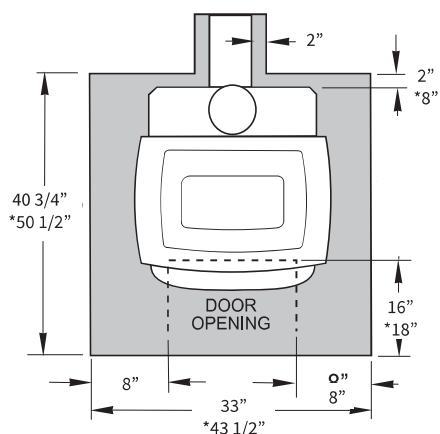

Figure 71. Minimum Hearth Dimensions.
- In a rear vent installation, floor protection must also extend under the stove pipe a minimum of 2" beyond either side. See figure 71.